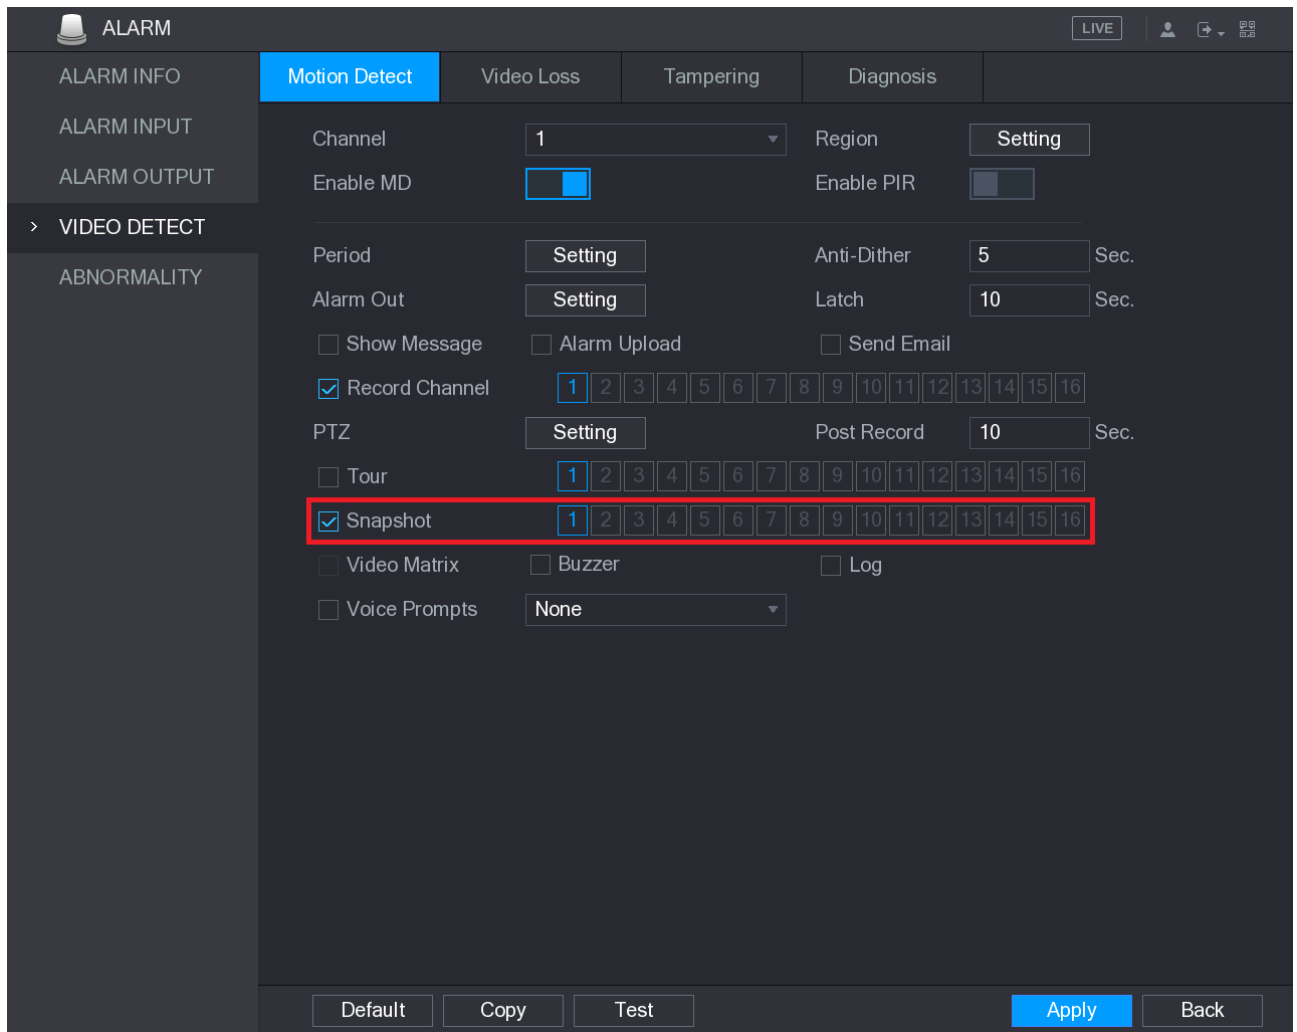

Figure 5-89
Step 3 Select **Main Menu > ALARM > VIDEO DETECT**, and select the event type to configure, for example, select the **Motion Detect** tab. See Figure 5-89.